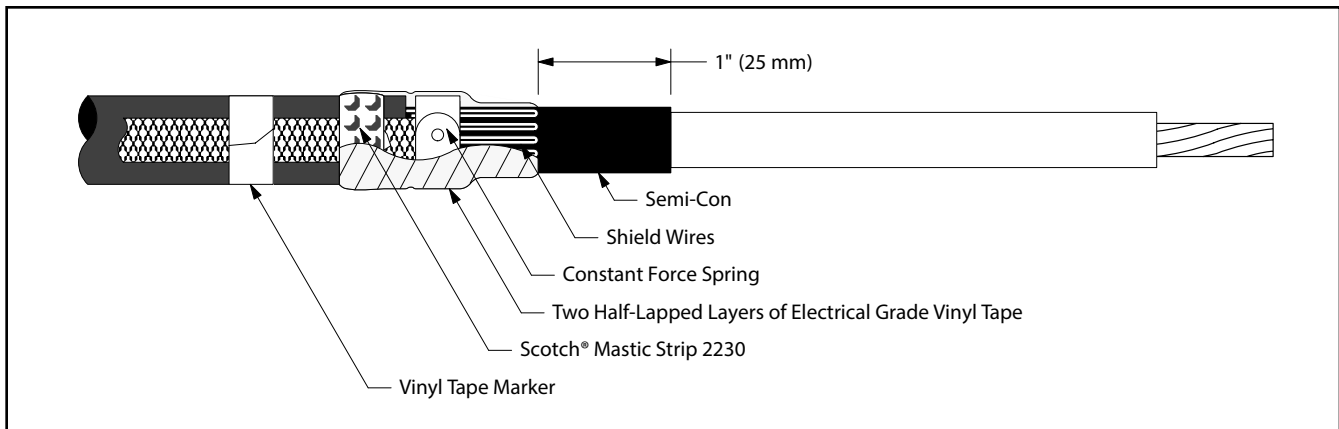

Figure 13
8.5 Wrap two highly stretched half-lapped layers of electrical grade vinyl tape around mastic seal, constant force spring and exposed shield wires (*Figure 13*).